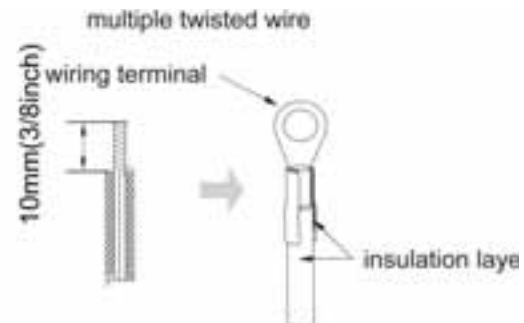

Fig 5.1.2
- (2) Stranded wire connection (as shown in Fig. 5.1.2)